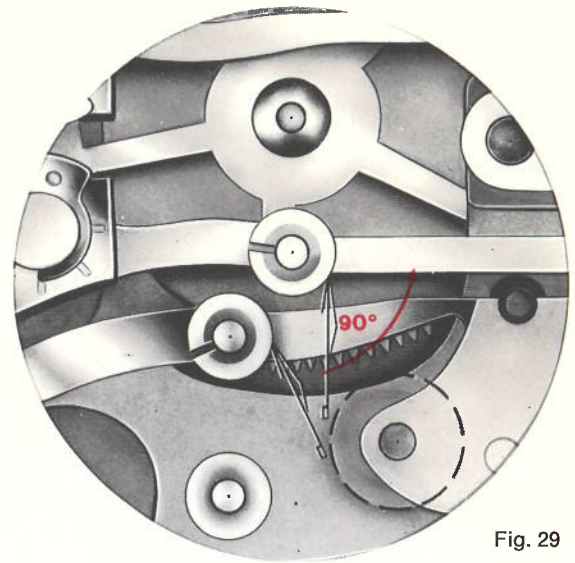

Fig. 29
- c. Remove screw (310) and ground plate (212).
- a. TURN COLLET OF THE INDEX FINGER PARALLEL TO THE TUNING FORK TINE. (Fig. 29). This is to make the pawl bridge accessible for removing.